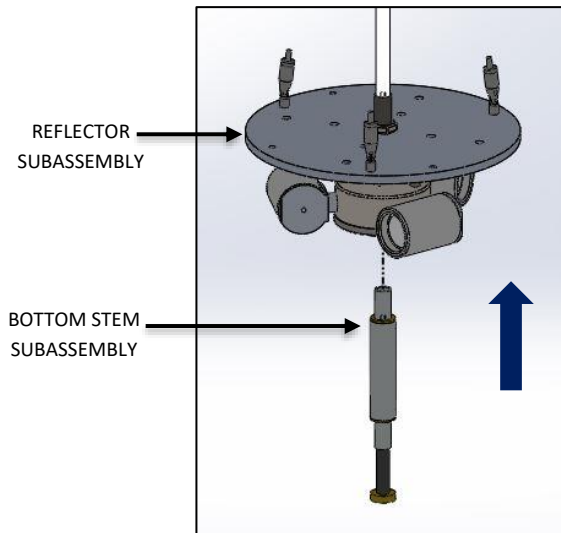
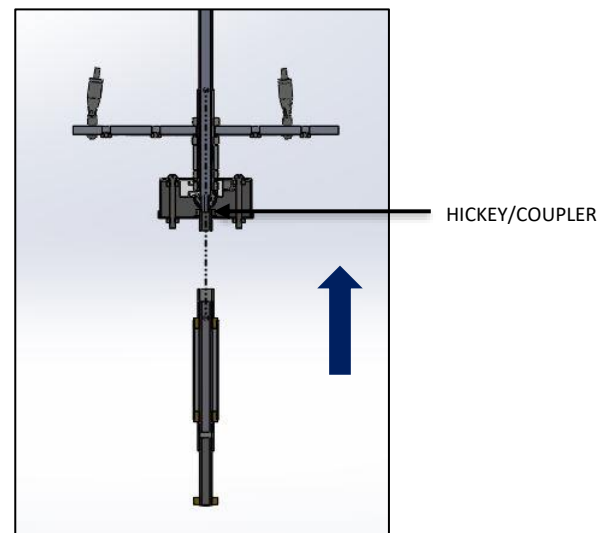

FIG. 12 – BOTTOM STEM
FIG. 13 – SECTION VIEW SHOWING BOTTOM
1. Attach BOTTOM STEM to REFLECTOR SUBASSEMBLY.as shown in FIG.12. To the HICKEY/COUPLER which is preassembled inside of REFLECTOR SUBASSEMBLY.as shown in FIG. 13.